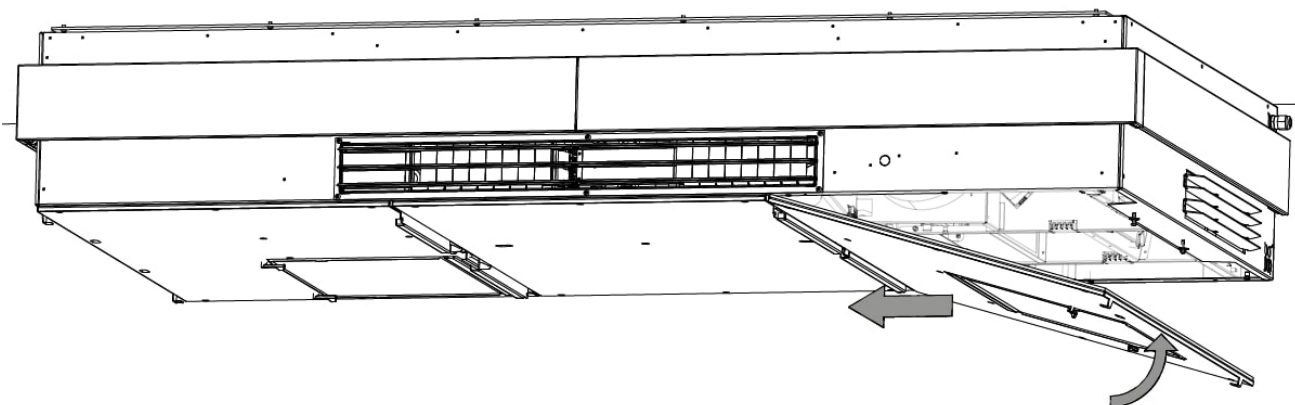

Figure 46: Lift the right-hand side plate onto the hinges
11. Lift the plate up and onto the hinges just as you did on the other side, see Figure 46.